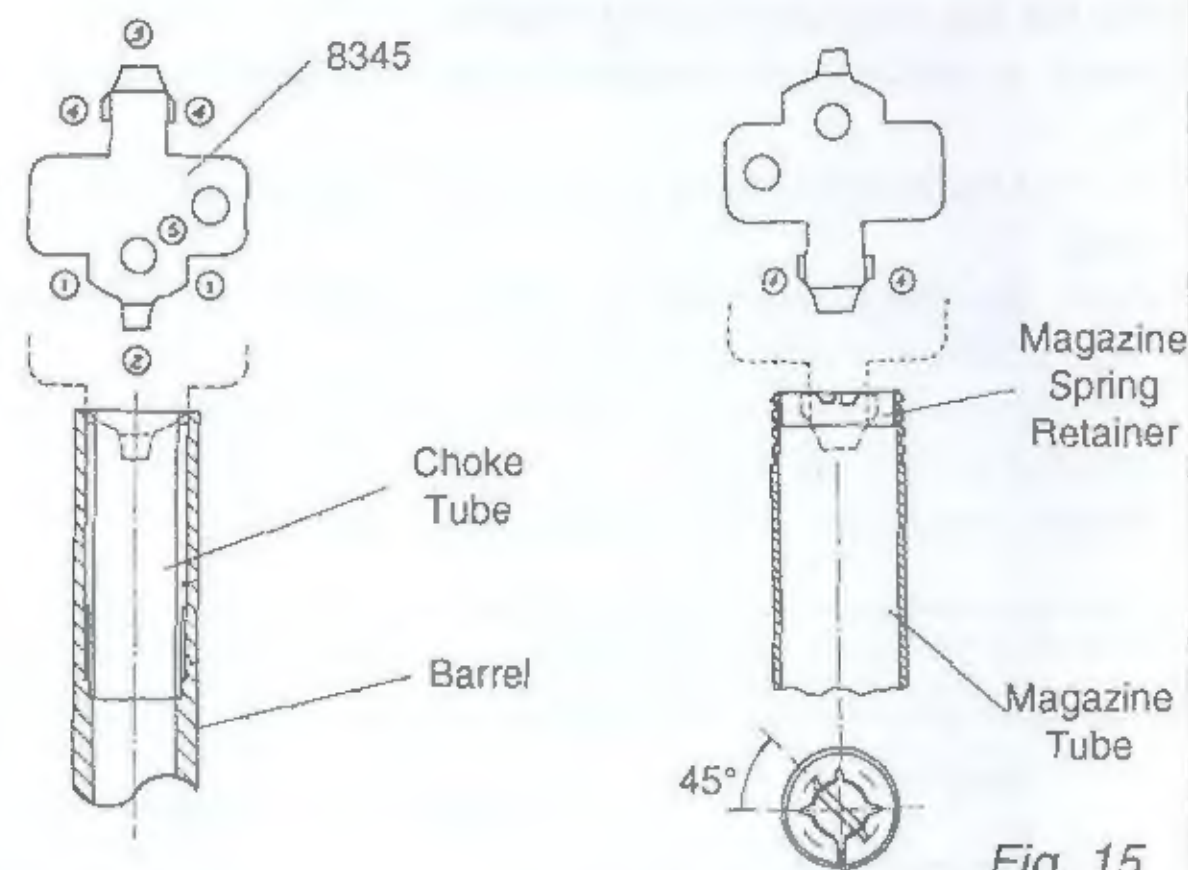

Fig. 15
The choke should first be screwed into the gun muzzle by hand as much as possible, and then tightened by using the multi-functional tool supplied with the gun. The tool should be fitted into the appropriate slots in the choke, and turned until the rear face of the choke rests firmly against its seating in the barrel. The final tightening should be done by turning the tool by hand only. Do not use any mechanical leverage on the tool to make the final tightening. (see fig. 15). To remove the choke proceed in the inverse manner.
This small light tool (see Fig 15) has been specially designed for pump 586.2, for the following uses:
- ① As a tool to tighten or loosen a choke in its seating in the barrel.
- ② As screwdriver for mounting accessory butt stock-mounted shell carrier.
- ③ As a screwdriver for screws in the gun.
- ④ As a tool to take out the magazine spring retainer.
- Insert the side of the tool as indicated by ④ in fig 15, into the slots of the magazine spring retainer.
- ⑤ Auxiliary Holes
Note: For shotguns with ventilated ribs, please see Note of Fig. 15.